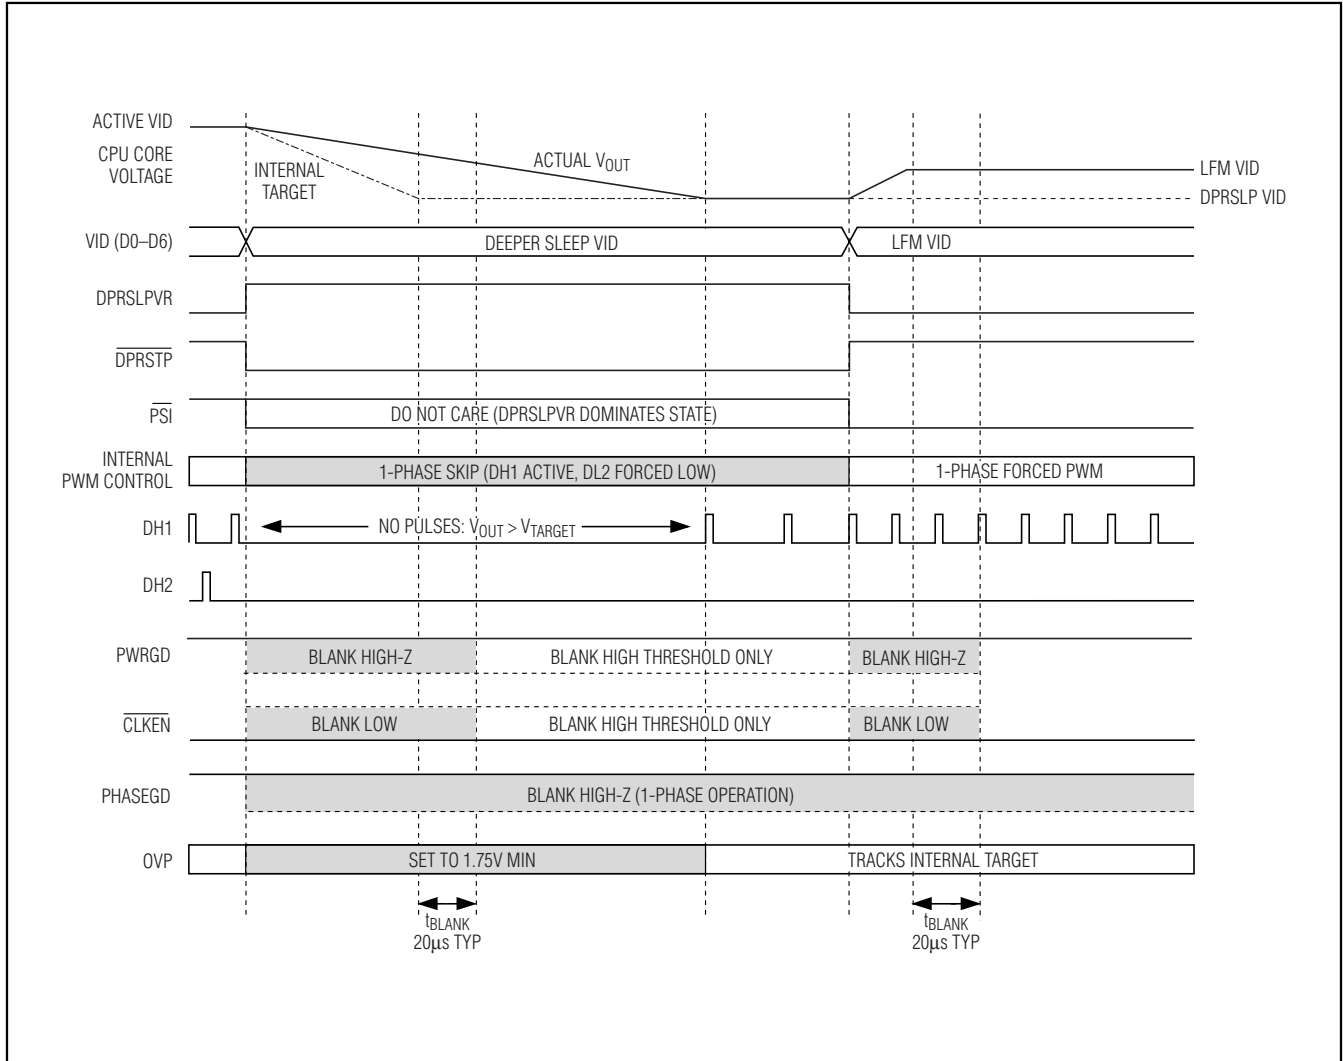

Figure 6. Slow C4 Transition
- Slow C4 Deeper Sleep Exit:** When exiting deeper sleep (DPRSLPVR high, \overline{DPRSTP} pulled high) while the output voltage is regulating to the deeper sleep voltage, the MAX8770/MAX8771/MAX8772 remain in 1-phase skip mode and ramp the output voltage to the LFM DAC code provided by the processor at $1/4$ the slew-rate set by R_{TIME} . The controller blanks PWRGD, PHASEGD, and \overline{CLKEN} (forced high impedance) until $20\mu s$ after the transition is completed. See Figure 6.